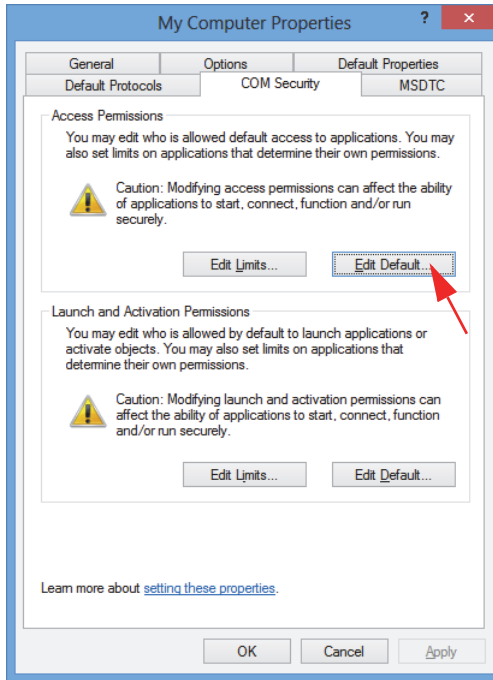

Figure 2-10 The Edit Default button under Access Permissions
9. In the **My Computer Properties** dialog box, under **Access Permissions** in the **COM Security** tab, click **Edit Default** (see Figure 2-10 on page 38).